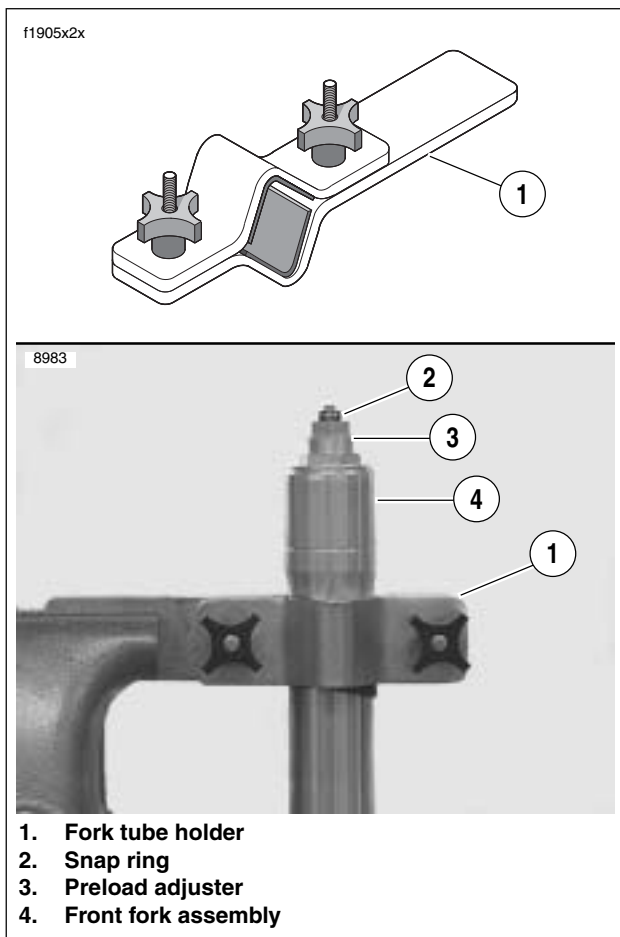

Figure 2-64. Fork Tube Holder (HD-41177)
2. See **Figure 2-64**. Clamp the FORK TUBE HOLDER TOOL (1) (Part No. HD-41177) in a vise and install the upper part of the front fork in the holding tool.
3. Remove snap ring (2).